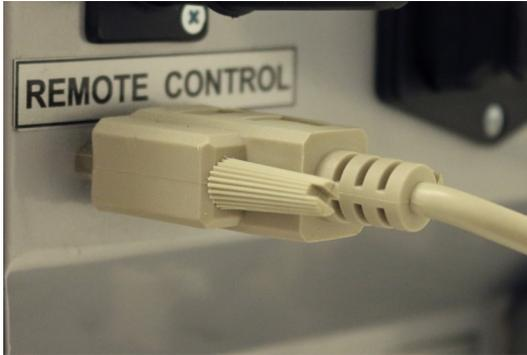

Figure 9.1 Foot Pedal Connection.
- Connect the foot pedal to the Remote Control Port found on the rear of the welder (see Figure 9.1).